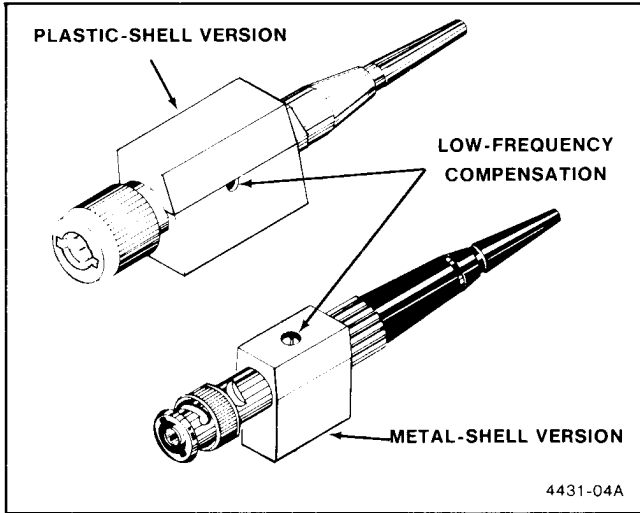
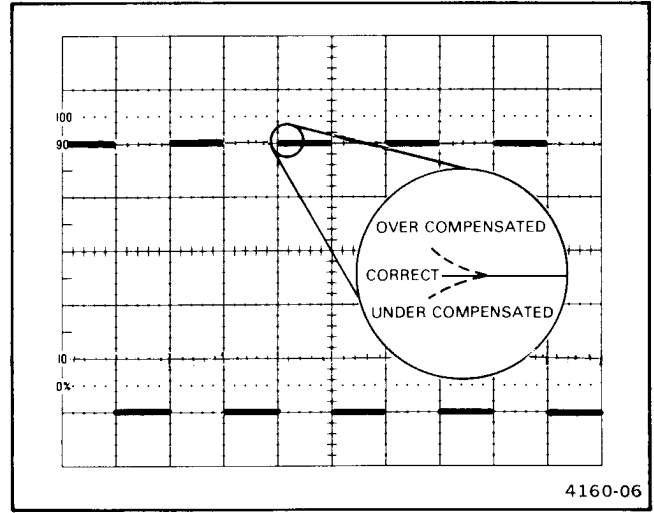

Figure 4-1. Low frequency adjustment.
Figure 4-2. Low frequency compensation.
e. ADJUST—Probe Low-Frequency Compensation control for the best flat top display on the wave form by using a low-reactance alignment tool (Figure 4-1). Typical oscilloscope waveform displays for the range of the compensation control are shown in Figure 4-2.